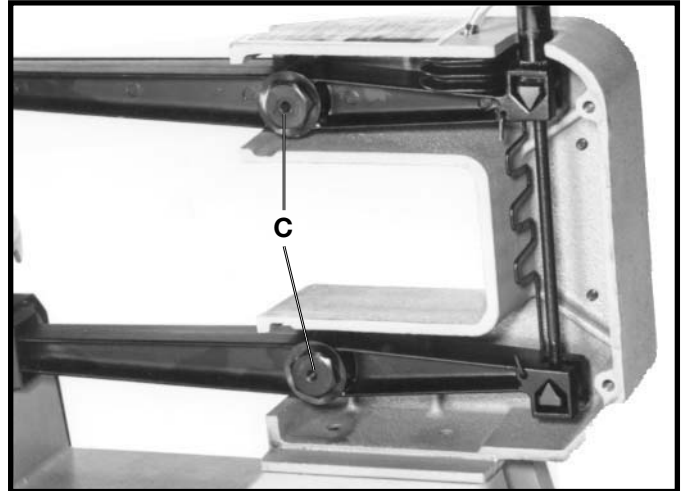

Fig. 27
4. Remove the two pivot bolts and wave washers (C) Fig. 27.